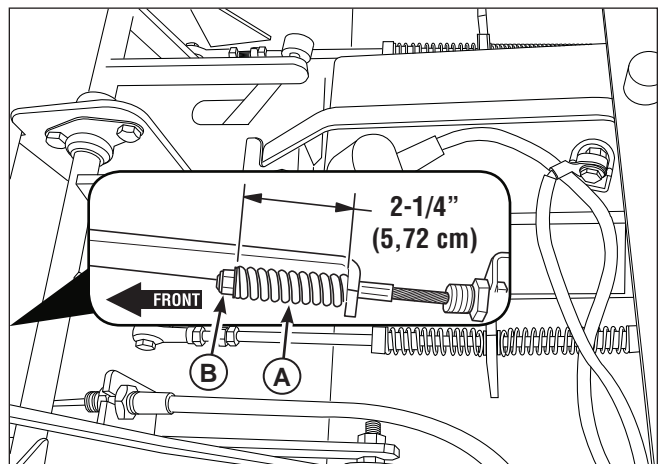

Figure 38. Parking Brake Adjustment
3. Locate the brake spring (A, Figure 38).
5. If the spring does not measure 2-1/4" (5,72 cm), release the parking brake and turn the adjustment nut (B) to compress or relax the spring.